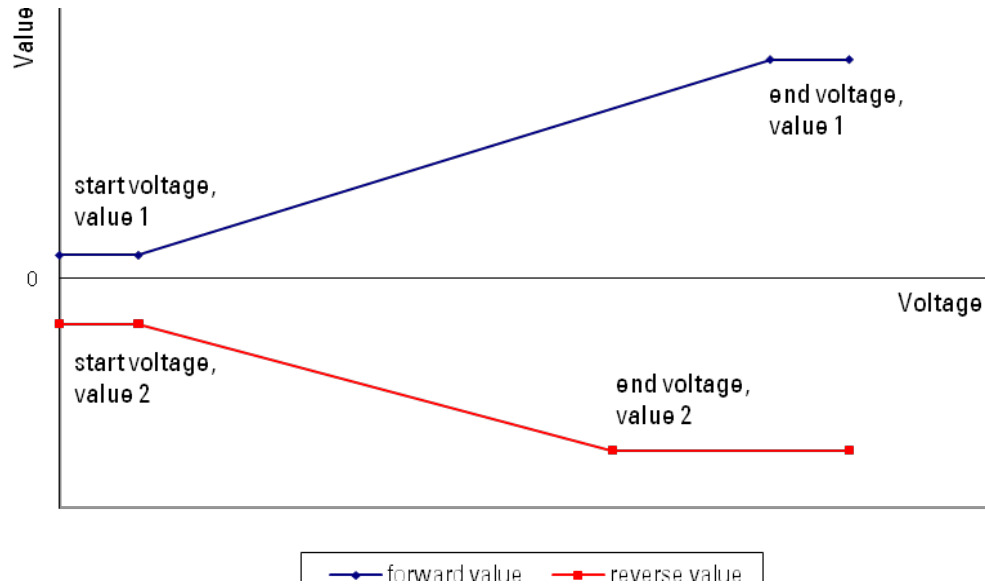
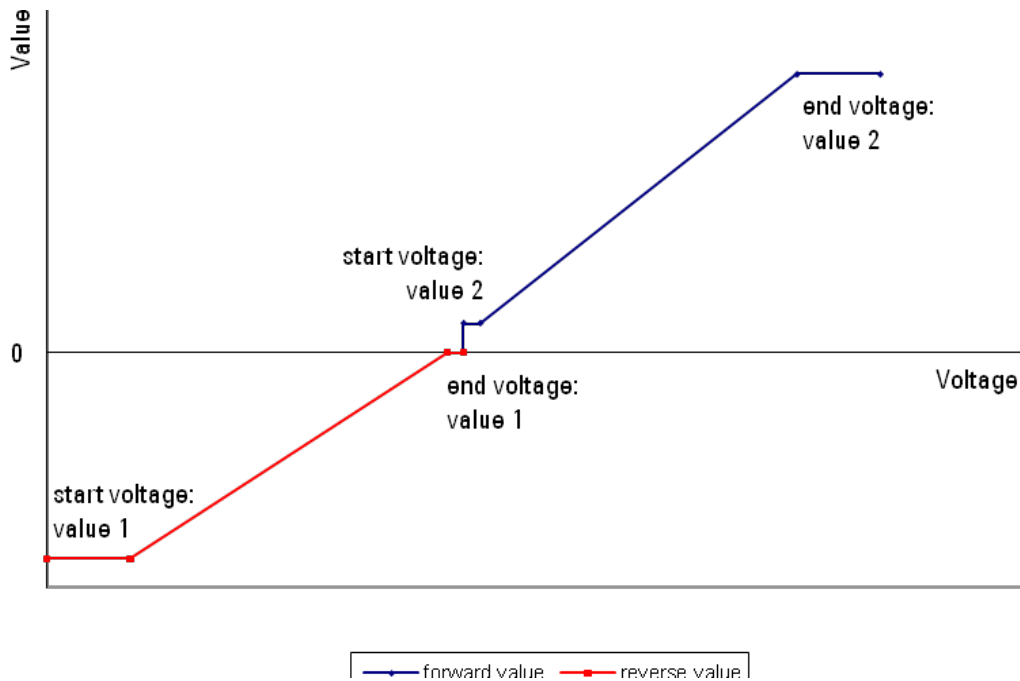

Figure 25 Standard throttle configuration
Figure 26 Directional throttle configuration
- Define the throttle voltage input: this is the relationship between the throttle voltage and the throttle value. Separate relationships can be specified for forward and reverse. Each relationship has two points, a start and an end. The points are configured differently for standard and directional throttles as shown in Figure 25 and Figure 26 respectively.